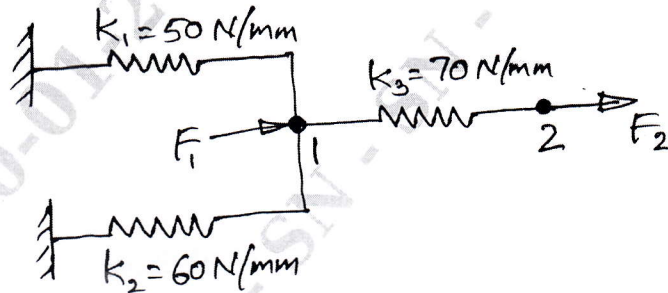

Fig.Q.1(b)
- b. State the principle of minimum potential energy. Using principle of minimum potential energy, determine the nodal displacements for the spring system shown in the Fig.Q.1(b). Take $F_1 = 75 \text{ N}$ and $F_2 = 100 \text{ N}$. (12 Marks)